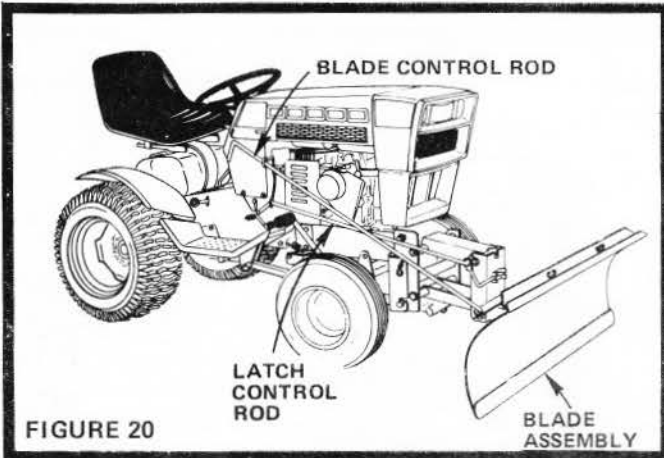

FIGURE 20
1. With foot, push down on Latch Control Rod (Fig. 20).